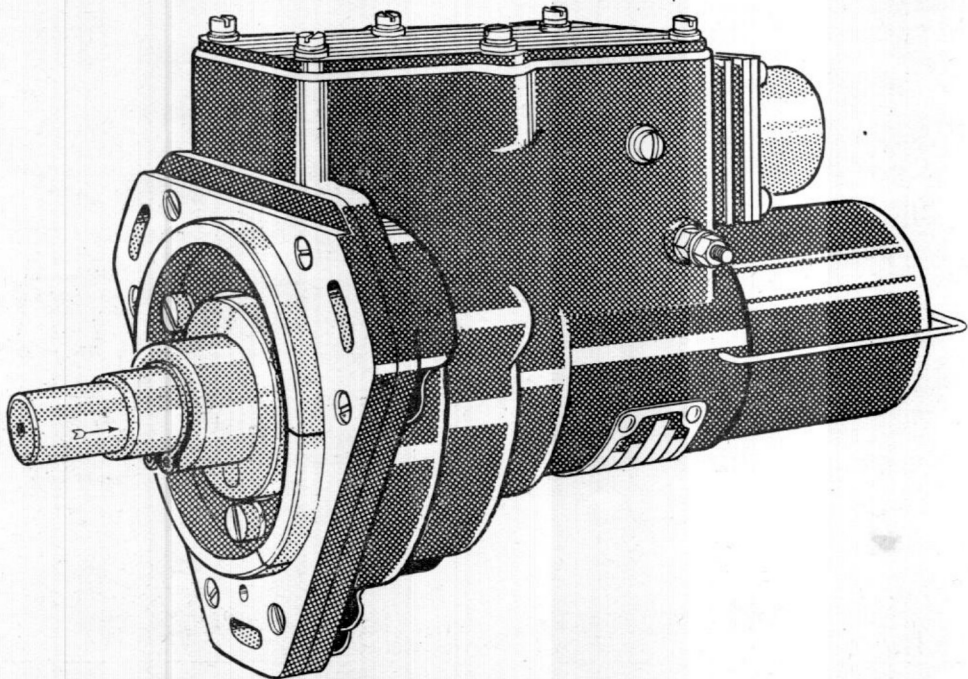
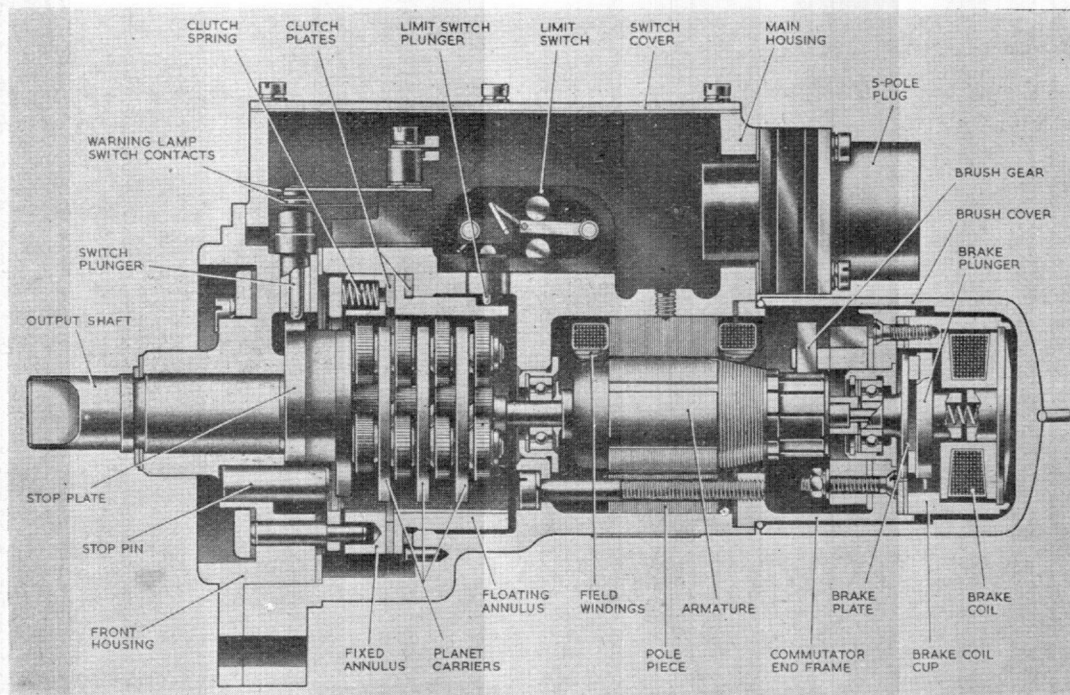
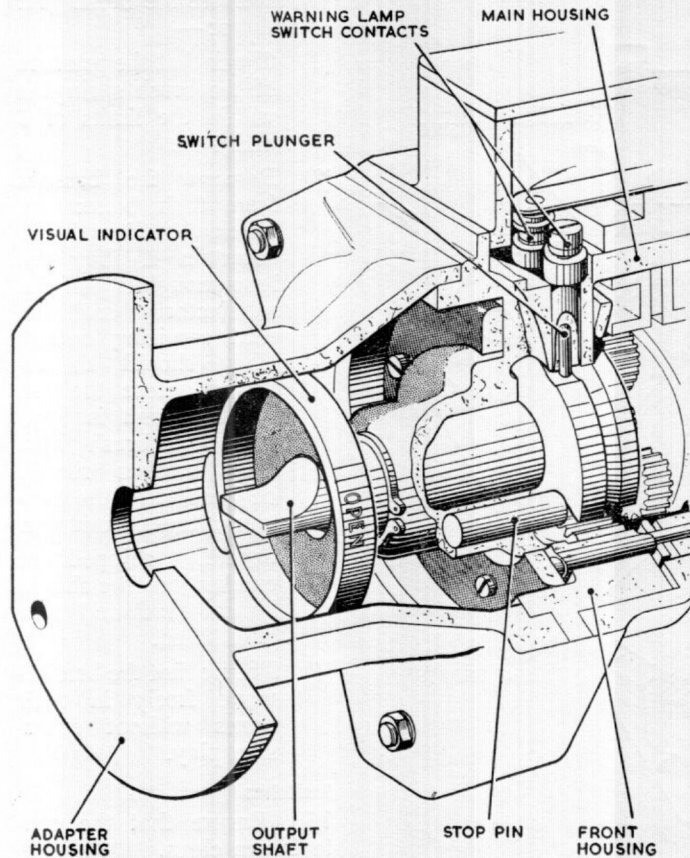

Fig. 1. Actuator, Type C5601
Fig. 2. Sectional view of actuator, Type C5611
Fig. 3. Adapter housing and visual indicator
2. The construction of the C5600 series of actuators is illustrated in fig. 1 and 2. Fig. 1 shows a Type C5601 actuator, and fig. 2 a C5611, which is typical of the series. Fig. 3 illustrates the adapter housing and visual indicator, which are fitted to some of the machines. The actuator incorporates a co-ordinated limit switch, clutch and stop mechanism set for the specific angular travel; it is not, however, designed for continuous inching.